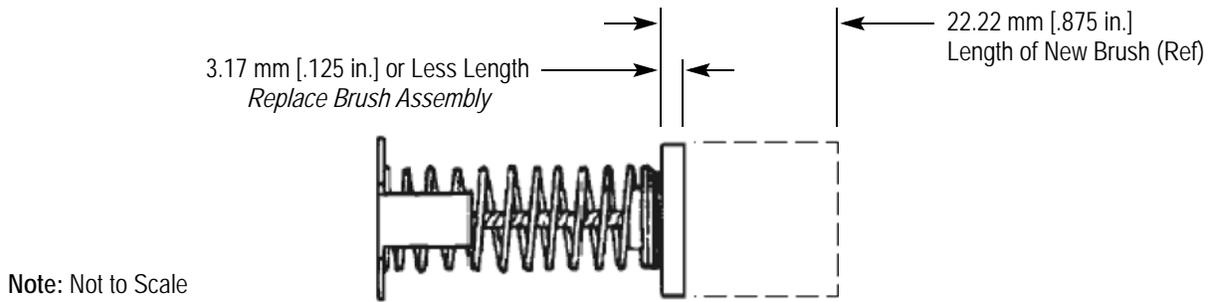

Figure 8
4. If either brush is 3.17 mm [.125 in.] or less in length, replace the brush assembly. Refer to Figure 8.